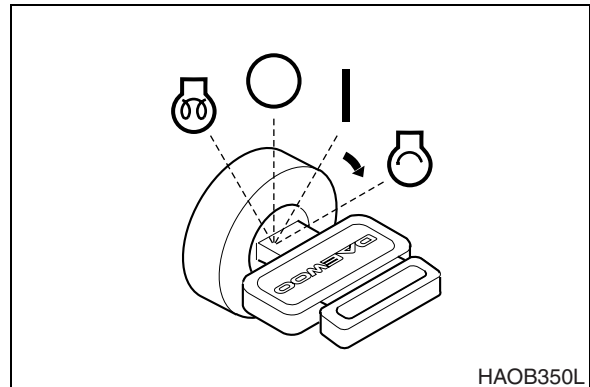

Figure 4
4. Turn starter switch to  (START) position (Figure 4). Engine should start in approximately 5 seconds.